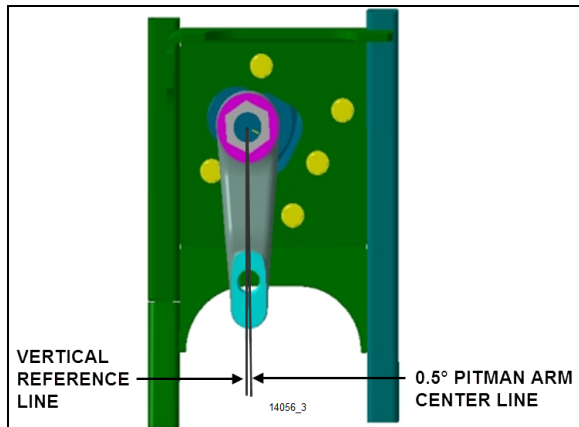

FIGURE 42: IFS PITMAN ARM ALIGNMENT
4. Check that the angular relationship of the pitman arm to the steering gear is as shown in Figure 42.